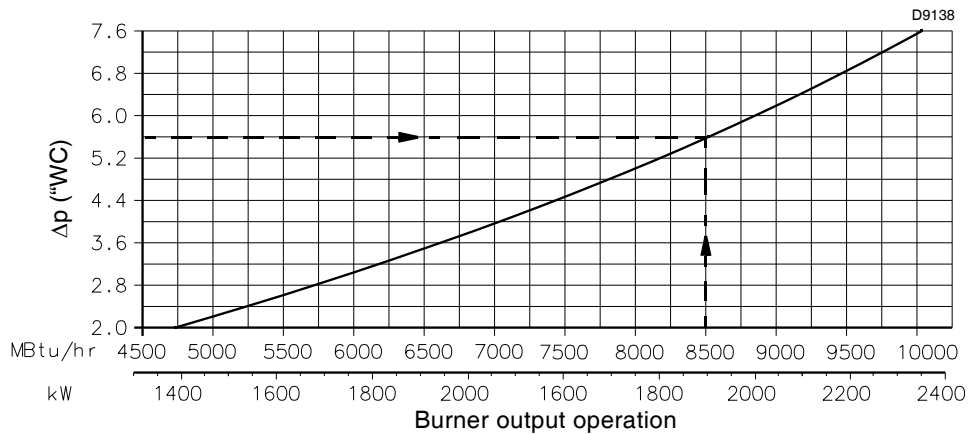
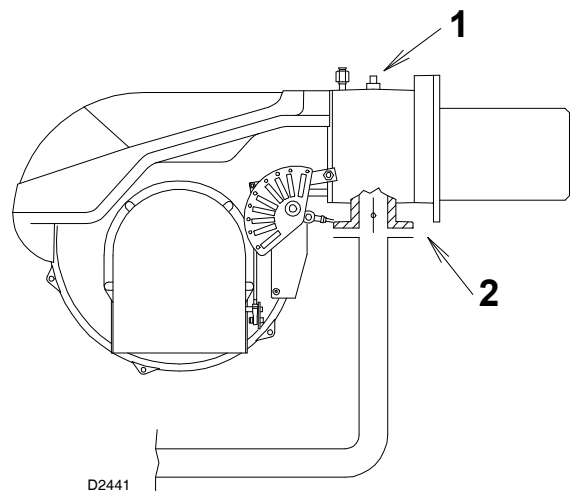

Fig. 20
Fig. 21
The diagram (Fig. 20) show minimum load losses at combustion head depending on the maximum burner output operation with natural gas (G 20).
Gas pressure is measured at the test point 1)(Fig. 21), with:
- subtract the combustion chamber pressure from the gas pressure measured at test point 1)(Fig. 21);
- find, in the diagram (Fig. 20) the pressure value closest to the result you want;
- Gas pressure at test point 1)(Fig. 21) = 6.8 "wc
To know the required gas pressure at test point 1) (Fig. 21), set the maximum output required from the burner operation, then:
- read, on the diagram (Fig. 20), the socket pressure 1) (Fig. 21);
- pressure required at socket 1) (Fig. 21).